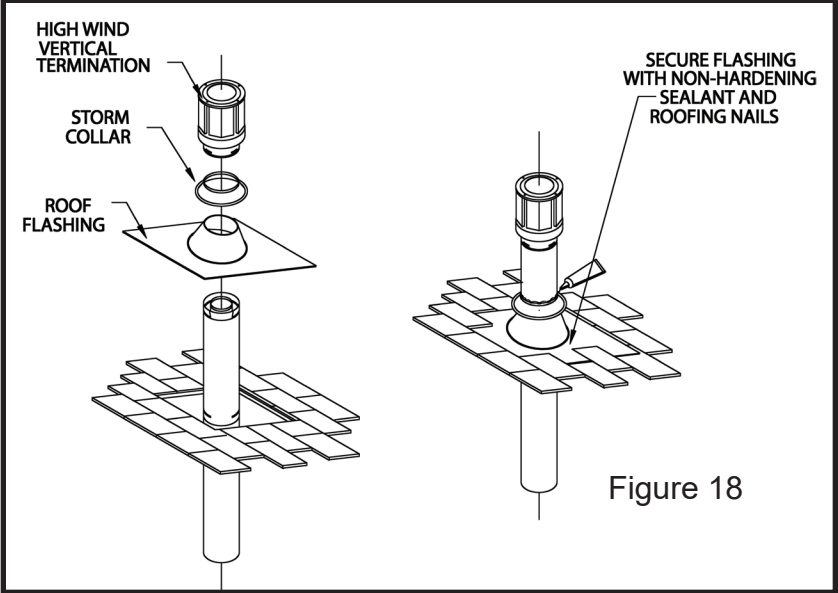

Figure 18
Section(s) protruding through the roof. Use a non-hardening sealant between the Roof Flashing and the roofing to prevent water leakage. Secure the base of the Roof Flashing to the roof with roofing nails. Ensure the roofing material overlaps the top edge of the Roof Flashing (Fig. 18). Verify that you have at least the minimum clearance to combustibles at the roof line and in the attic.
Step 9. Slip the Storm Collar over the Pipe Section, and push it down to the top of the Roof Flashing (Fig. 18). Use non-hardening sealant between the Storm Collar and the Pipe Section.
Step 2. Using the plumb bob, mark Figure 18 the center line of the venting system on the ceiling and drill a small hole through the ceiling and roof at this point. From the roof, locate the drill hole and mark the outline of the Cathedral Ceiling Support Box.